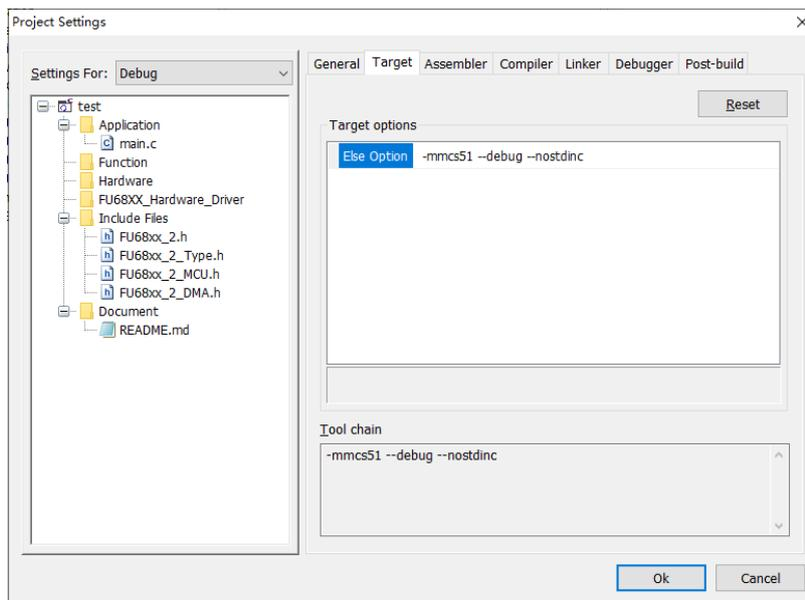

Figure 1-37
2. Target: As shown in Figure 1-37, the choice of chip type, please refer to the “FTM C Programming Guide (Simplified Chinese)” for specific descriptions.